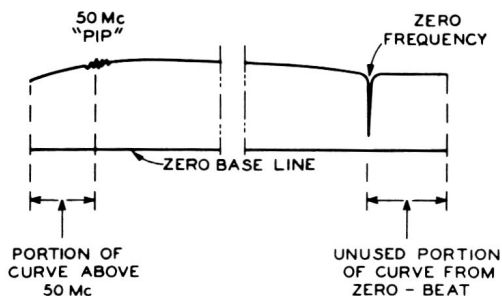

Figure 17. IF/VF Response of the WR-59C
6. Readjust L5 so that the unused portion of the curve beyond zero beat is approximately equal to the portion of the curve above the 50-Mc "pip", as illustrated in Figure 17. The curve in Figure 17 will not appear in its entirety on the screen of the cathode-ray oscilloscope. However, by rotating the IF/VIDEO control over its entire range of frequencies, the reader can view the curve a portion at a time.